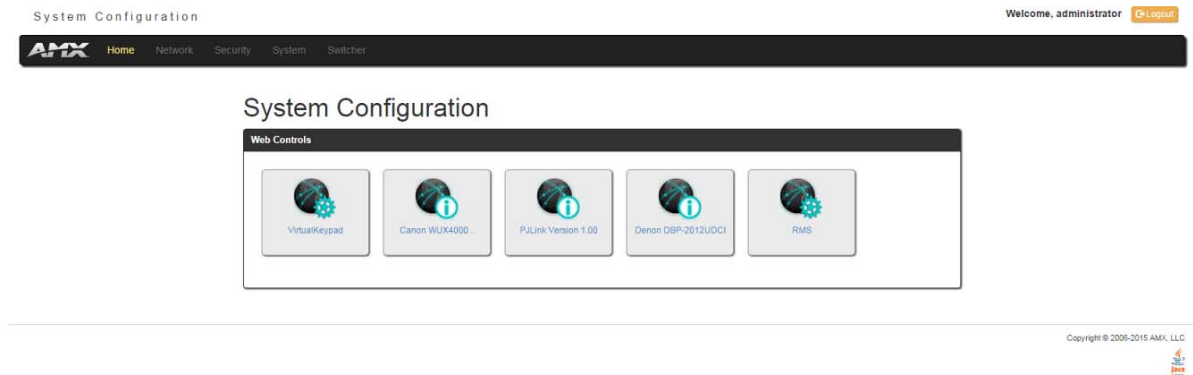

FIG. 28 WebConsole - Web Controls page (initial view)
NetLinx Masters have a built-in System Configuration interface that allows you to make various configuration settings via a web browser on any PC that has access to the Master. The System Configuration interface (an on-board web configuration) contains a comprehensive set of web pages that can be used during setup to manage your system's network, security, and system needs, as well as configure its inputs and outputs while executing switches (FIG. 28).
2. Press Enter to access WebConsole for that Master. The initial view is the *Web Control* page (FIG. 28).